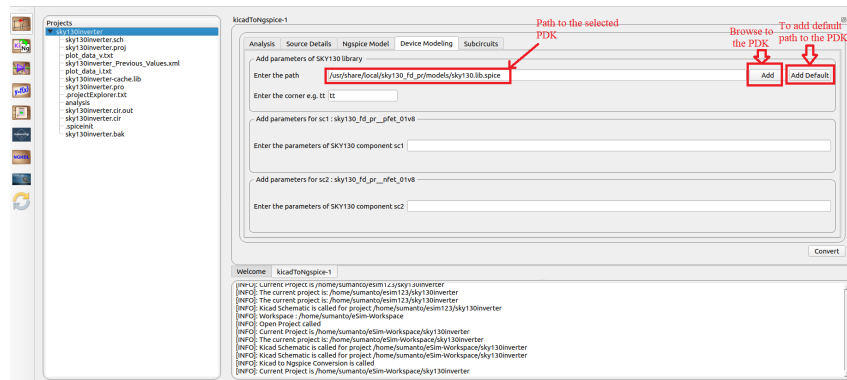

Figure 9.5: Device Model Tab of CMOS Inverter using SKY130
- The options for the SKY130 PDK are involved in the **Device Model Tab**. The Device Model Tab for the CMOS Inverter project is shown in Fig. 9.5.